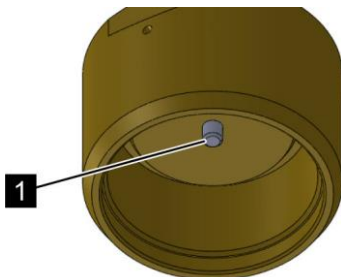

Fig. 174: Release pin
1. ➤ Check whether the release pin (Fig. 174/1) of the electric release device is deactivated.